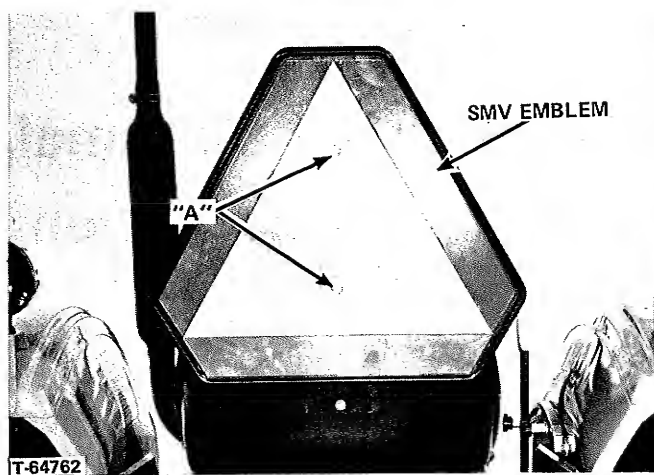

FIGURE 1
1. Remove the SMV emblem from its bracket by removing bolts "A", Figure 1. Remove bolts "B", Figure 2 and separate the SMV emblem bracket from the seat bracket. Remove nuts and washers at "C" and remove the seat bracket from the rear of the tractor seat and set it aside for possible future use if tractor is used without protective frame. Reinstall the nuts and washers at "C" on the bolts in the seat back and tighten securely.